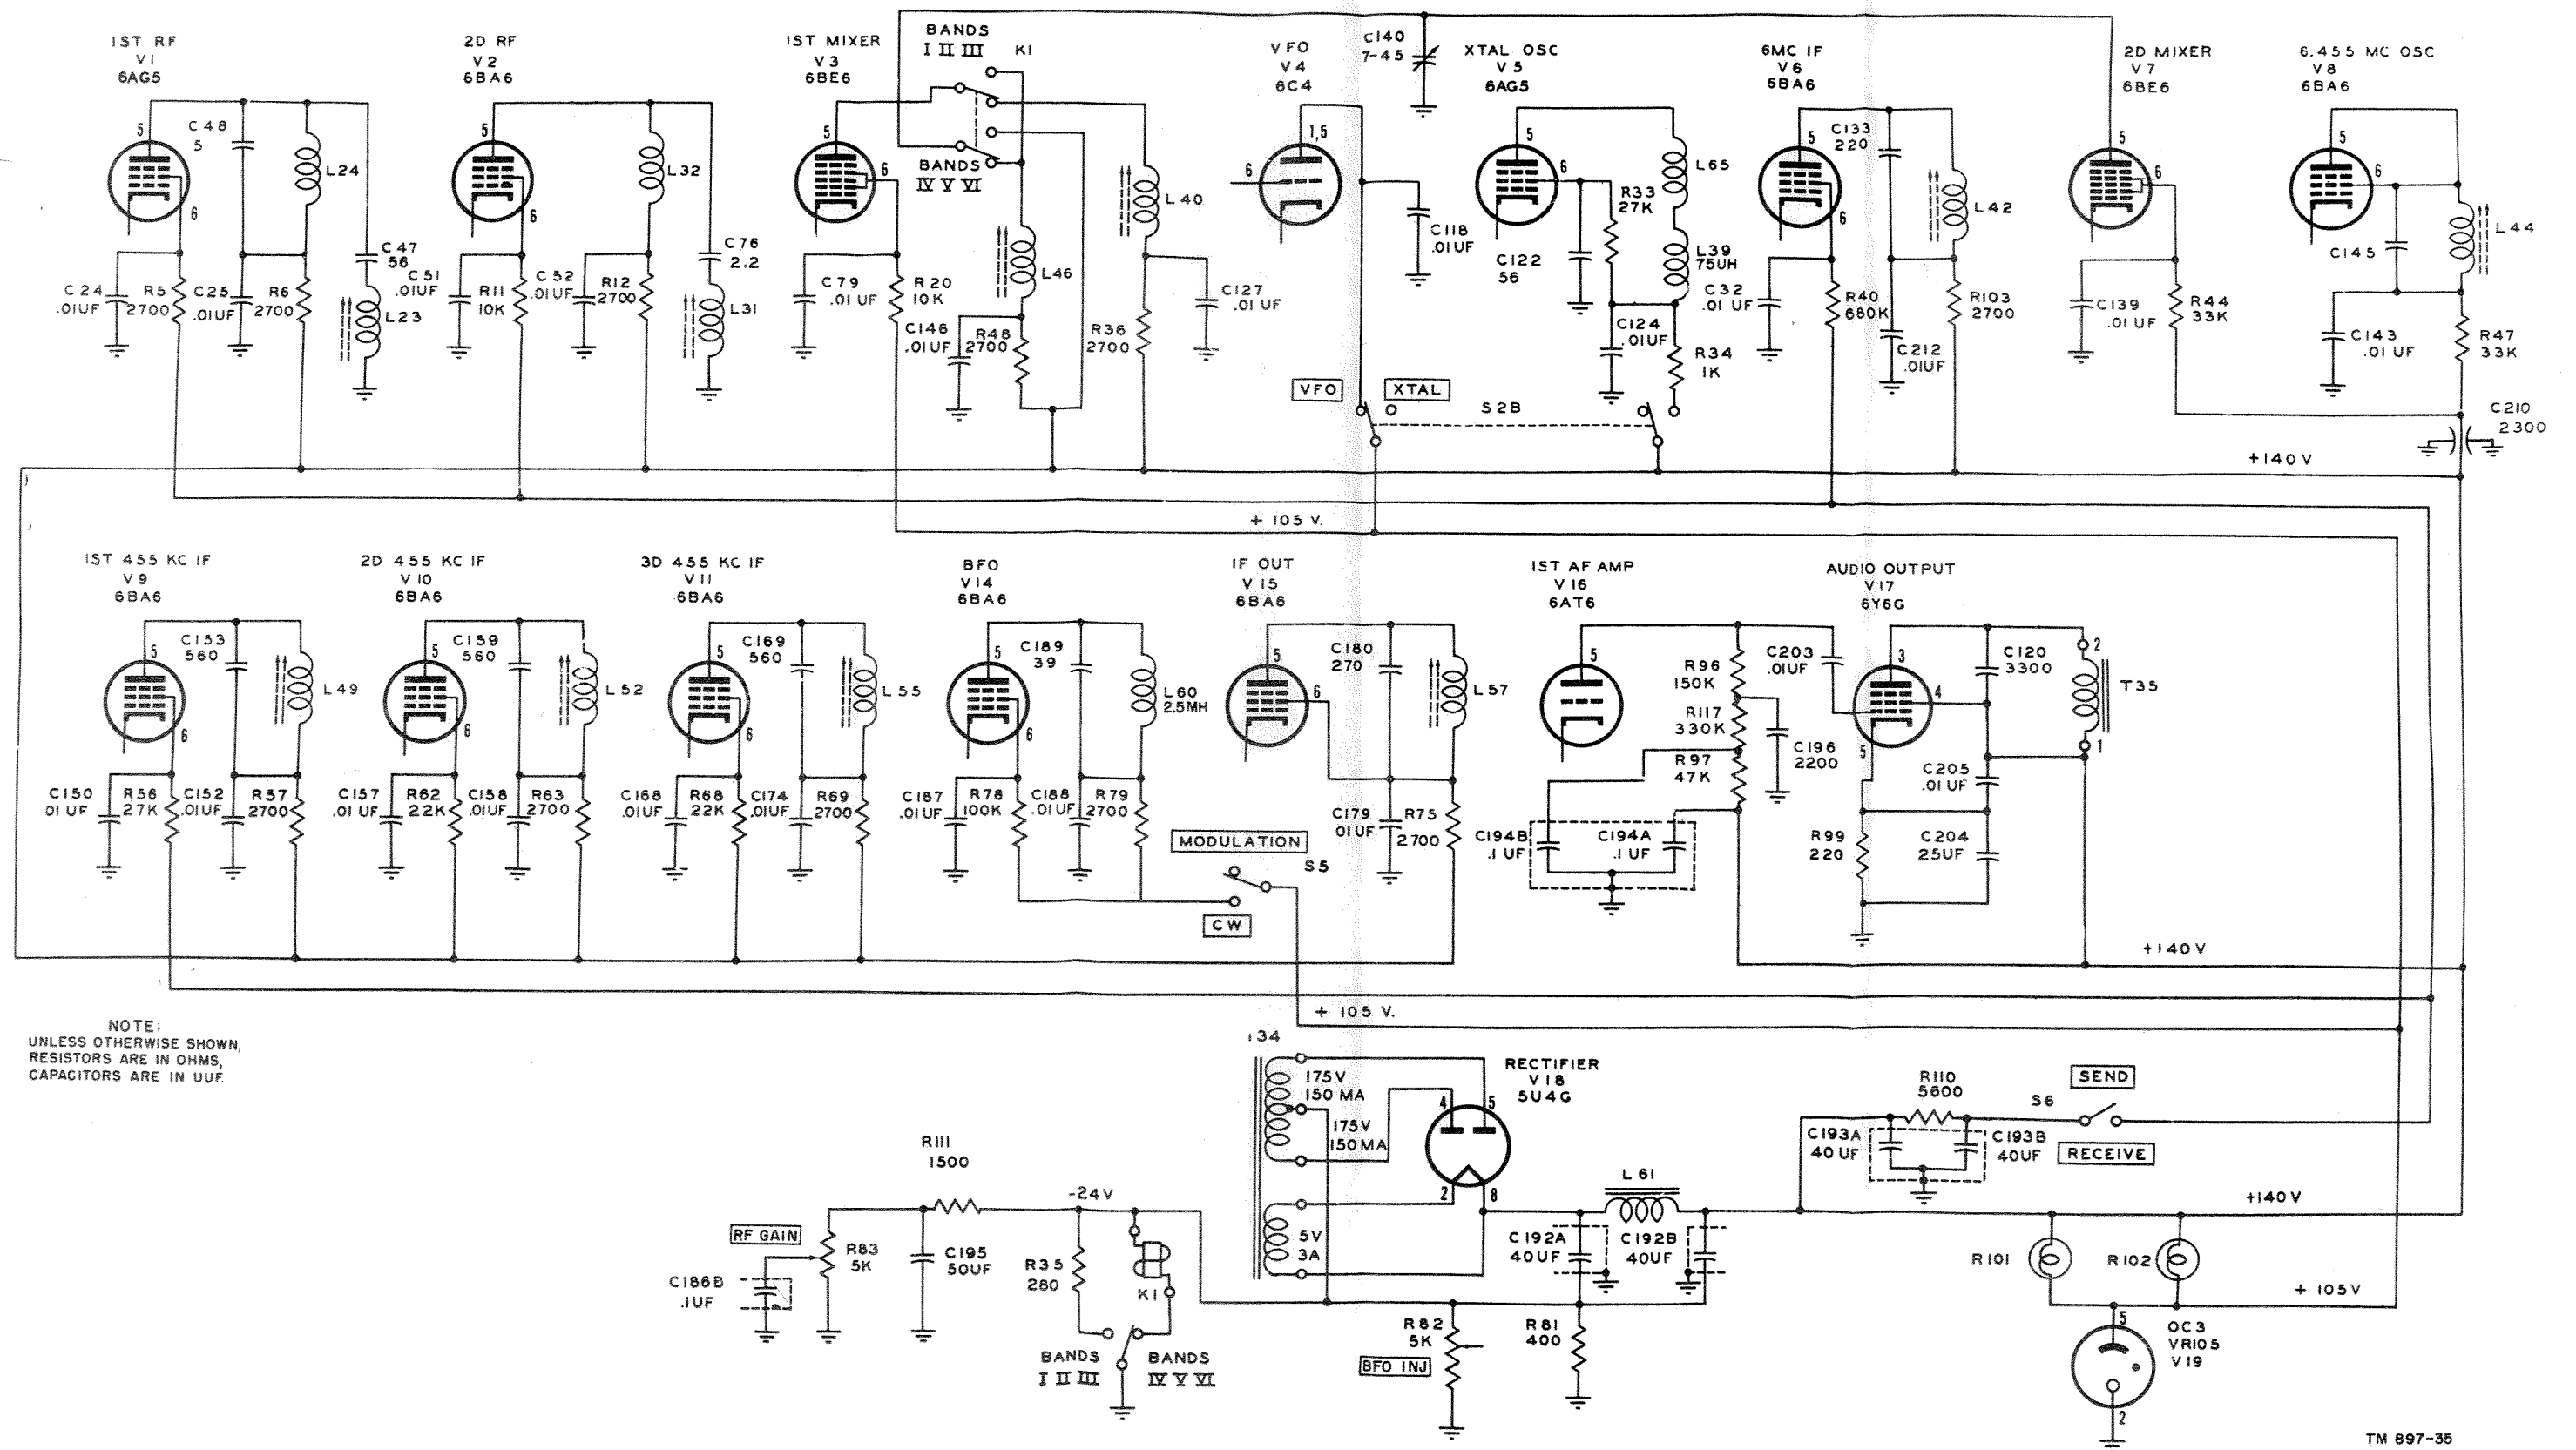

Figure 29. Radio Receiver R-274/FRR, +B voltage distribution.
a. Many times a short circuit in the B+ line can disable the entire receiver; however, sometimes just one or a few stages will be affected. If the receiver is operated with a short circuit, other components may become overheated due to the increased current flow; sooner or later they will become defective. To check for these troubles without the danger of causing more damage, a resistance check should be made. Figure 29 is a simplified diagram of the B+ distribution throughout the receiver. In it are the paths which could offer short circuits. By using this diagram, in conjunction with the voltage and resistance chart